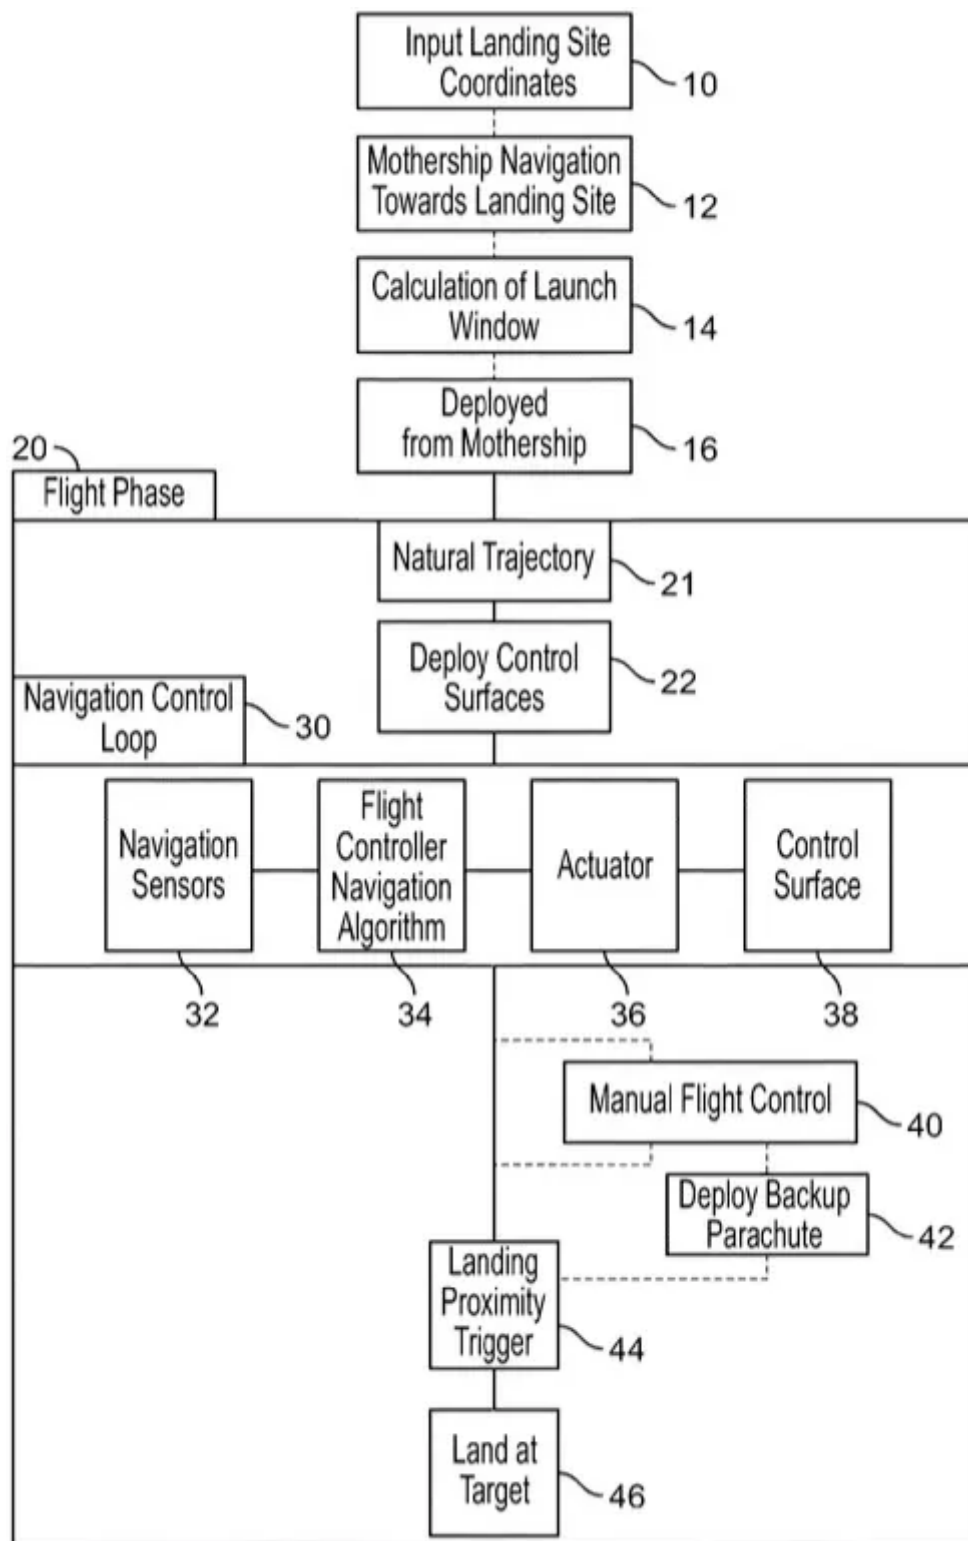

FIG. 2
[0023] FIG. 2 is a flow chart showing the sequence of deployment operations.
[0034] Reference will now be made to FIG. 2. FIG. 2, depicts a block diagram of flight operations. As shown in block 10, prior to launch from mother ship (1) ground GPS coordinates are placed into the flight controller memory by computer interface. The ground coordinates may be placed into the flight controller memory prior to or during flight.